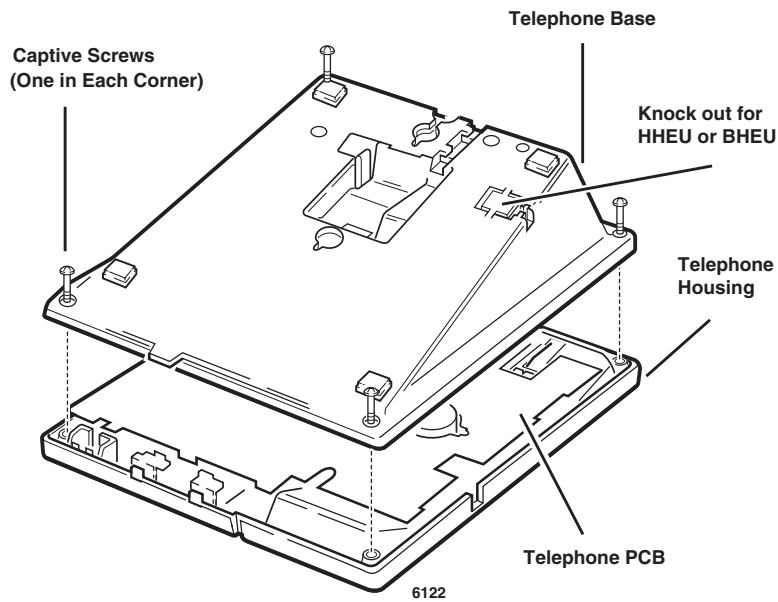

Figure 11-2 Removing Telephone Base
1. Loosen the four captive screws on the telephone base and remove the base (see Figure 11-2).
1. Loosen the four captive screws on the telephone base, and remove the base. Knock out hole for the BHEU cord (see Figure 11-2).